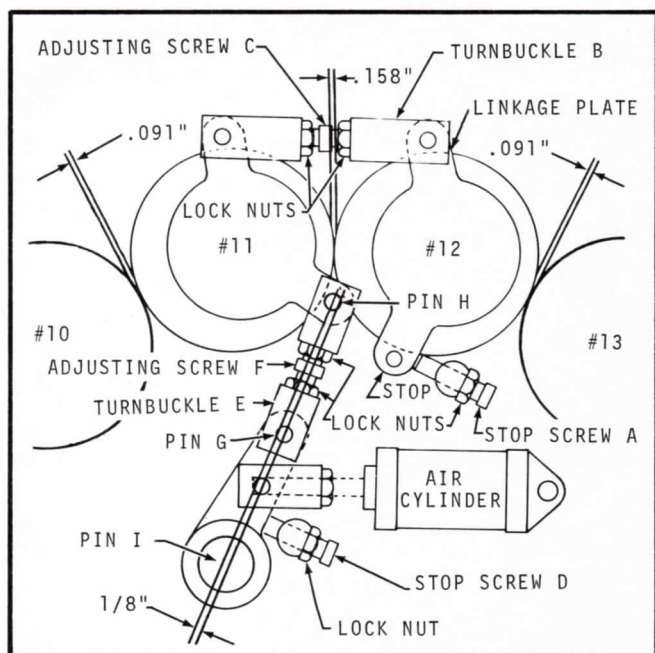

Figure 30 IRON-TO-IRON SETTINGS
## IRON-TO-IRON SETTINGS (Fig. 30)
To Check the Setting, use the gauges furnished with the press. The settings between all the cylinders are shown in Figure 30.
1. Open the housing on the operating side of the unit and open the door on the drive side. Figure 30 shows the linkage arrangement on the operating side. The linkage on the drive side is identical.